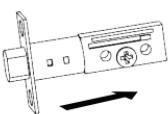

Figure 2a
- Hold latch with numbers facing forward and thumb pressing on the bolt (Figure 2a).